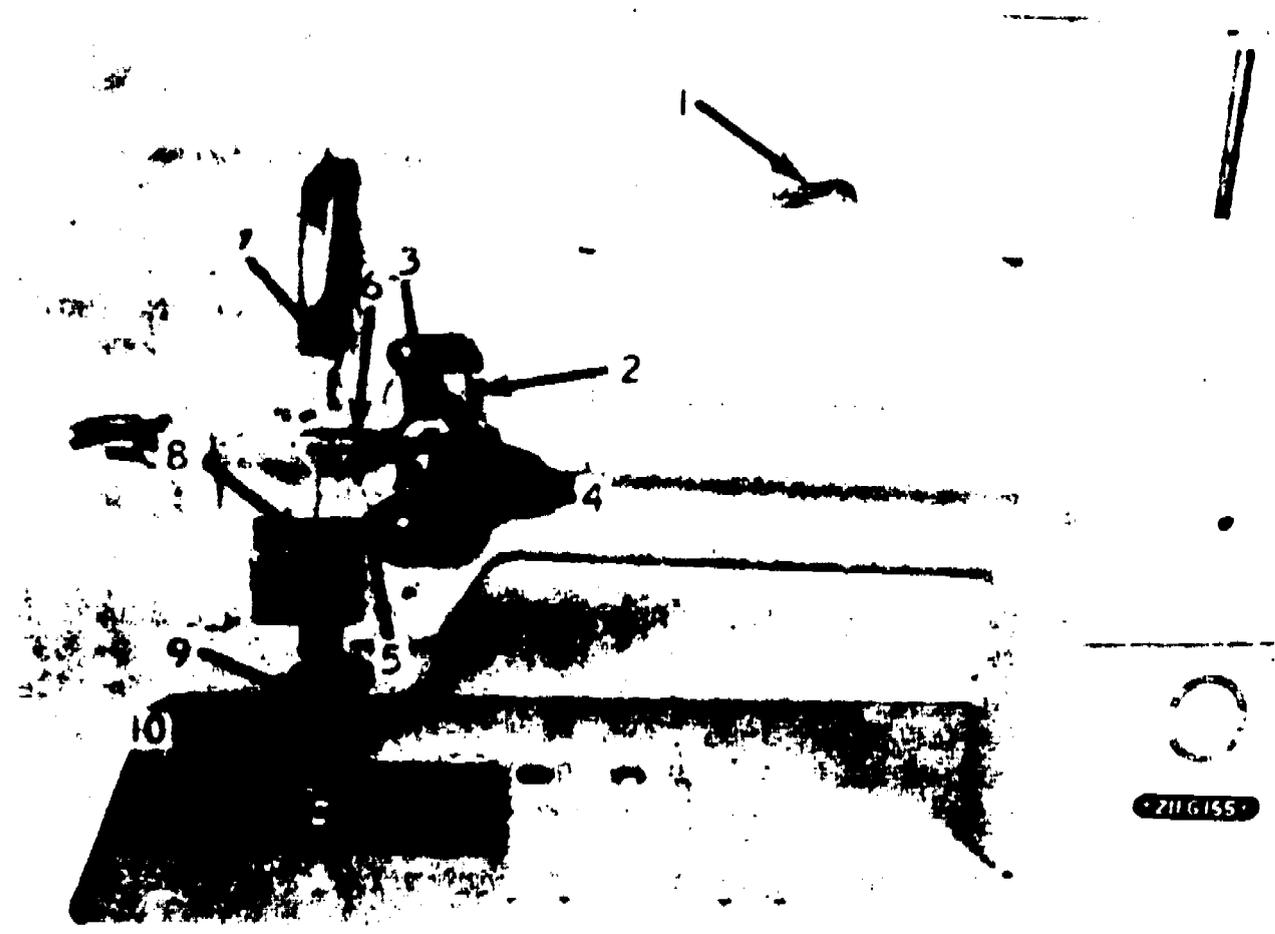

Figure 91. Threading points (Medium Duty Sewing Machine.)
E. Threading the Needle Thread. (Fig 91)
NOTE: See Figure 91 for completed view on threading the medium duty sewing machine.